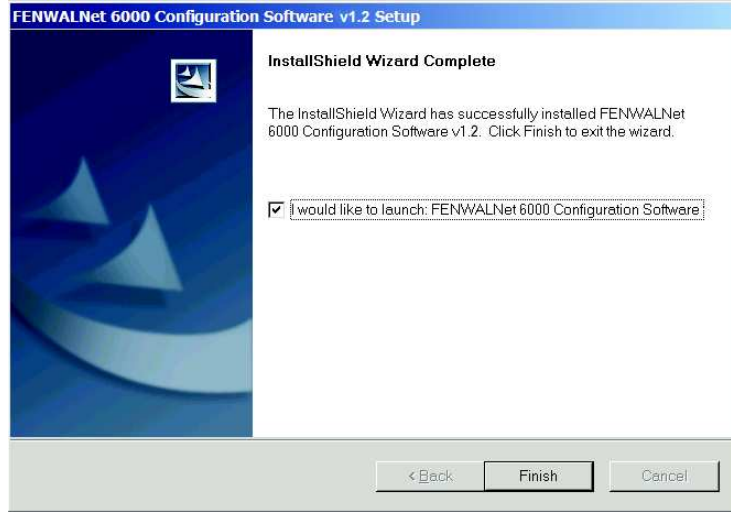

Figure 1-6. InstallShield Wizard Complete Screen
7. InstallShield Wizard Complete Screen (Figure 1-6). Setup of FCS 6000 is complete. Select the “I would like to launch FENWALNET 6000 Configuration Software” radio button to start the software, then select **<FINISH>**.